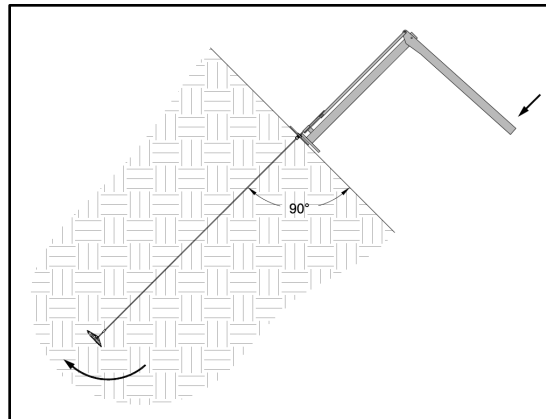

Figure 20: Use JackJaw Setting Tool to Set Anchor
6. Once the plate is close to the slope surface, place the JackJaw Setting Tool on the anchor plate and place the top of the anchor tendon into the grips, keeping the anchor tendon perpendicular to the slope surface (Figure 20). With gentle force, slowly start to press down on the JackJaw lever – towards the slope surface - causing the anchor tendon to start to move out of the ground (displace). During this step, the anchor head will turn in the ground – a process known as “anchor setting”. The change in embedment depth to set a Type B1 Anchor can be up to 6 inches and up to 8 inches for Type B2 depending on soil conditions. When the anchor is set, there will be a noticeable change in the amount of force needed to displace the anchor any further. This is a good indication that the anchor head is now perpendicular to the anchor tendon and the anchor is ready to be load-locked.